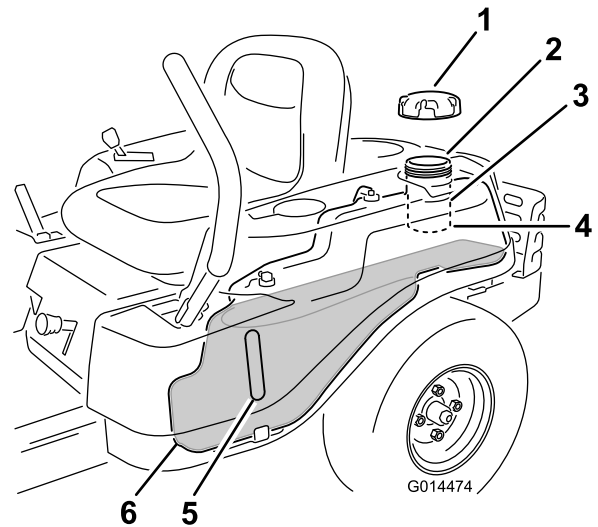

Figure 12
Note: You can use the fuel window to verify the presence of gasoline before filling the tank (Figure 12).
- Slowly** add regular, unleaded gasoline until the fuel reaches the base of the filler neck (Figure 12).